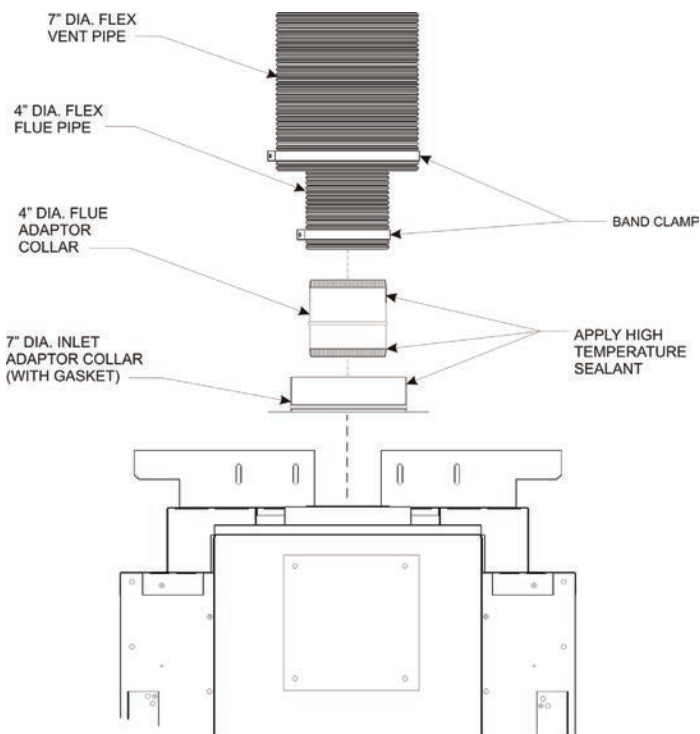

Figure 33
17. To attach the vent connections at the fireplace, be sure the 7-inch diameter adapter collar has been installed per step 3. Apply a bead of silicone sealant to the 4-inch diameter flex connector, then slide the flex pipe adapter collar into the fireplace flue collar and secure by installing a minimum of two (2) screws through the flue collar and into the adapter. **See Figure 33.**
18. Apply sealant to the 7-inch diameter adapter collar, slide outer flex vent over the collar, then secure with a 7-inch diameter band clamp. **See Figure 33.**